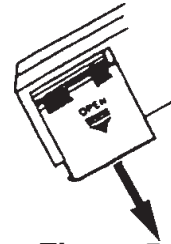

Figure 5
2. Press on the battery compartment cover and slide the cover off in the direction of the arrow (see Figure 5).